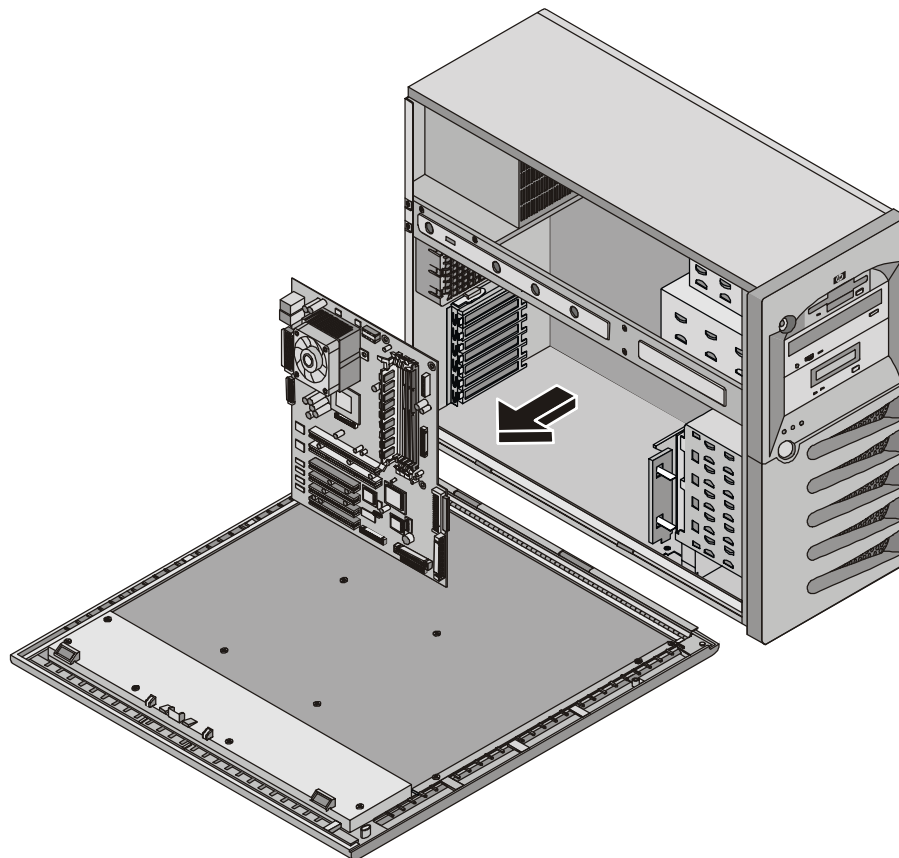

Figure 7-4. Removing System Board
10. Slide the system board forward and then lift the board up and away from the chassis. See Figure 7-4.